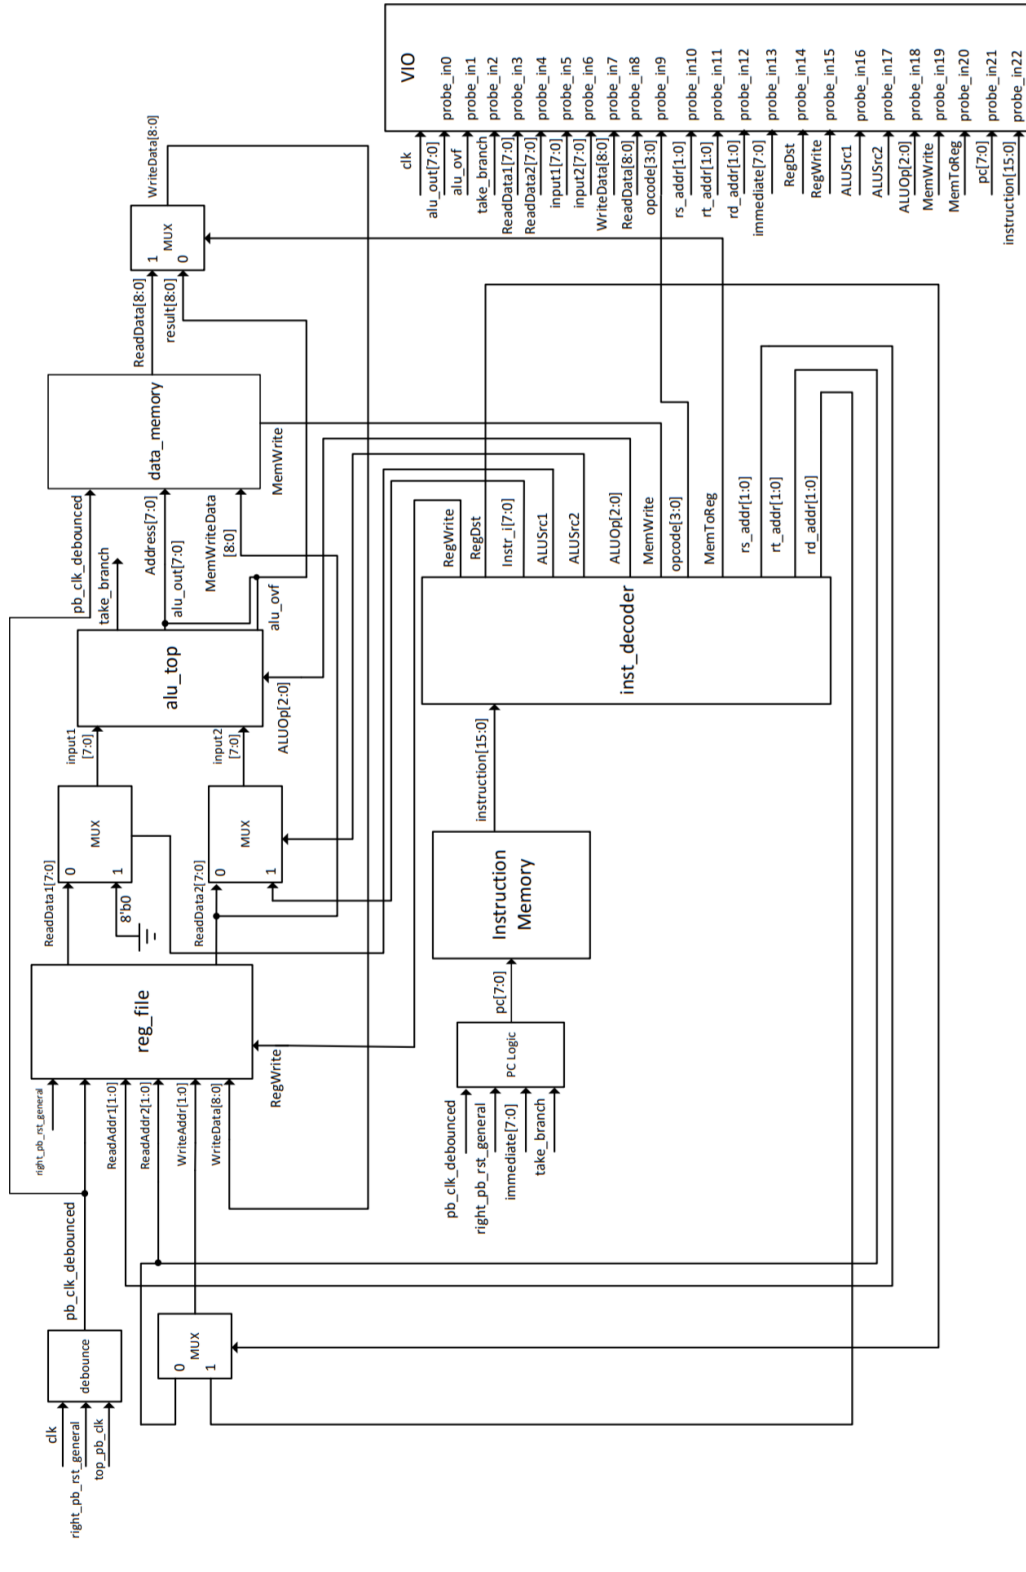

Figure 1: Final Computer
Figure 1 shows the top level design for your computer.
Enhance your program counter (PC) from lab 7 to handle branches. Inputs and outputs to the PC logic are shown in Fig. 1. Note that the signal `take_branch` is high when a branch, should be taken and low otherwise. In this architecture when we have a branch the next PC value should be the current PC value plus the offset which is extracted from the branch instruction. The offset is represented in two's complement, so the range of branch target is from $PC - 128$ to $PC + 127$. Note that the value of PC should not exceed `0xFF` as we have a 256-deep instruction memory. You do not need to check for this condition in your hardware.
In this experiment we will be using both VIO and the SSD to display the output. The VIO module has the inputs shown in Fig. 1 and no outputs. You are using VIO to monitor what is happening in your hardware. All the control logic is being generated by you in hardware.